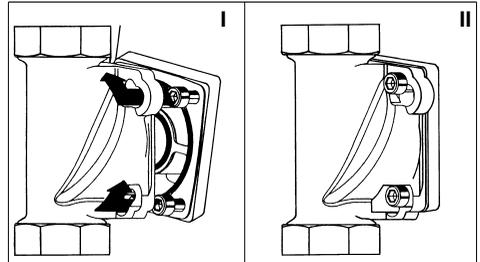

Fig. 3: Built-in rotary flange with bayonet fixture
- Insert the four flange screws in the bayonet drill holes on the built-in rotary flange (see fig. 3 I).
- Turn the domestic water station in a clockwise direction as far as it will go (see fig. 3 II).